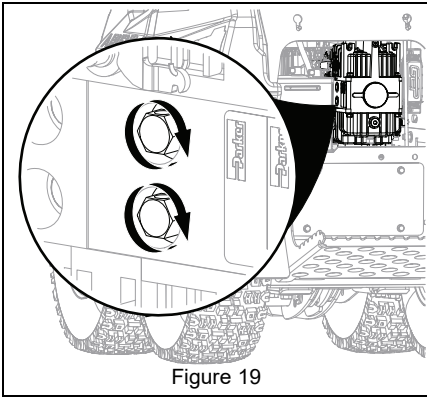

Figure 19
5. Turn both bypass valves two complete turns clockwise to the operating position. Torque to 9.5 N•m – 13.6 N•m (7 lb-ft – 10 lb-ft). See Figure 19.